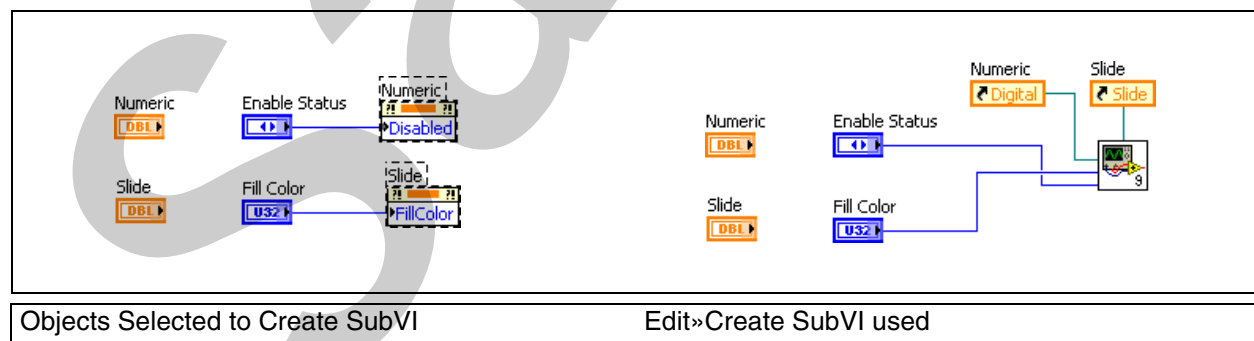

Figure 5-5. Using Edit»Create SubVI to Create Control References
As shown in Figure 5-5, the simplest way to create explicitly linked Property Nodes is to complete the following steps:
2. Select the portion of the block diagram that is in the subVI, as shown in the first part of Figure 5-5.
4. Customize and save the subVI. As you can see in the second part of Figure 5-5, the subVI uses the default icon.